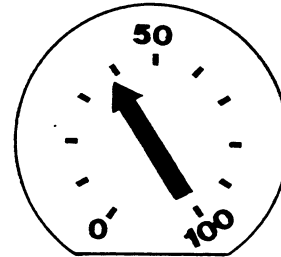

FIGURE 15. GAIN AND DROOP CONTROLS
- b. Turn the screw to approximately 40 for 3 percent droop. (See Figure 15).
- c. Turn the screw to approximately 80 for 5 percent droop. (See Figure 15).